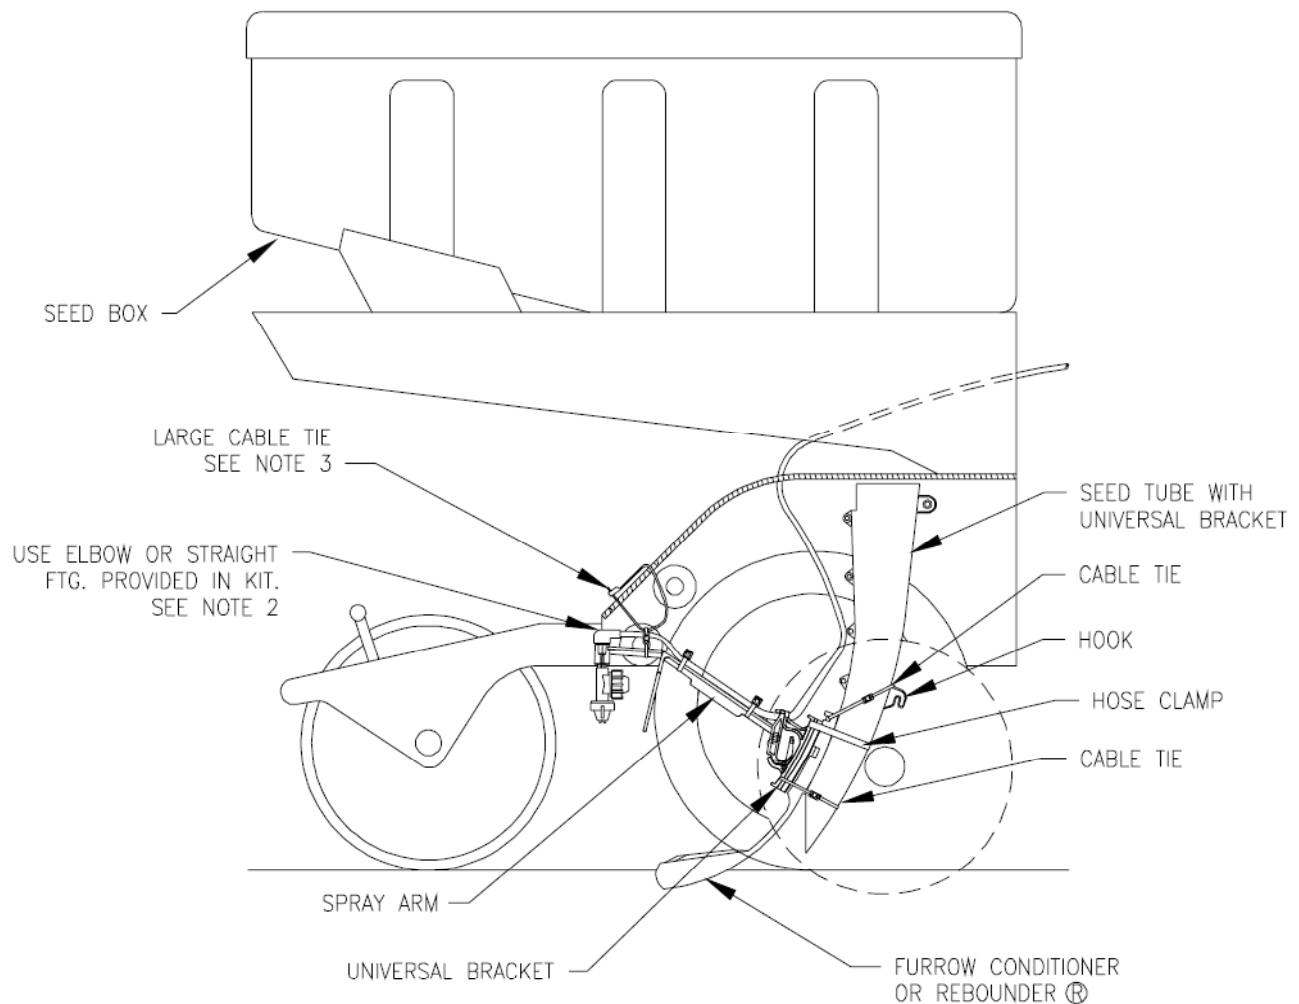

FIGURE 17
5. The Spray Arm (assembled in step 2) is intended to mount on the planter seed tube. The spray arm nozzle should be positioned in place of the insecticide drop tube. (Ref. Figure 17) If this tube is present, it will not be used and must be removed.